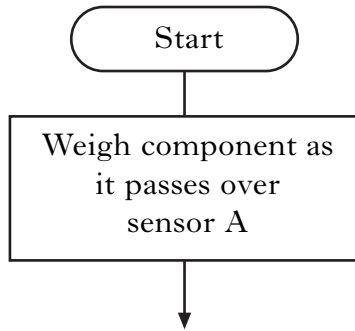

Figure Q6(a)
- (a) Complete the flowchart shown in Figure Q6(a) to show the operation of the automated sorting system.